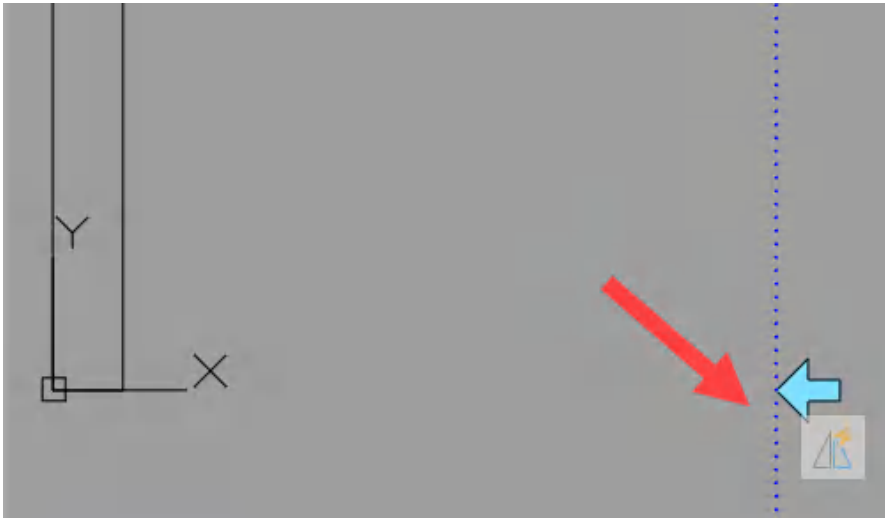

Figure 11.18: The Flip action fully applied to the Flip parameter
13. The small yellow exclamation mark disappears, and a **Flip** action symbol appears next to the blue arrow representing the **Flip** parameter (known as the **flip grip**), as shown in *Figure 11.18*.